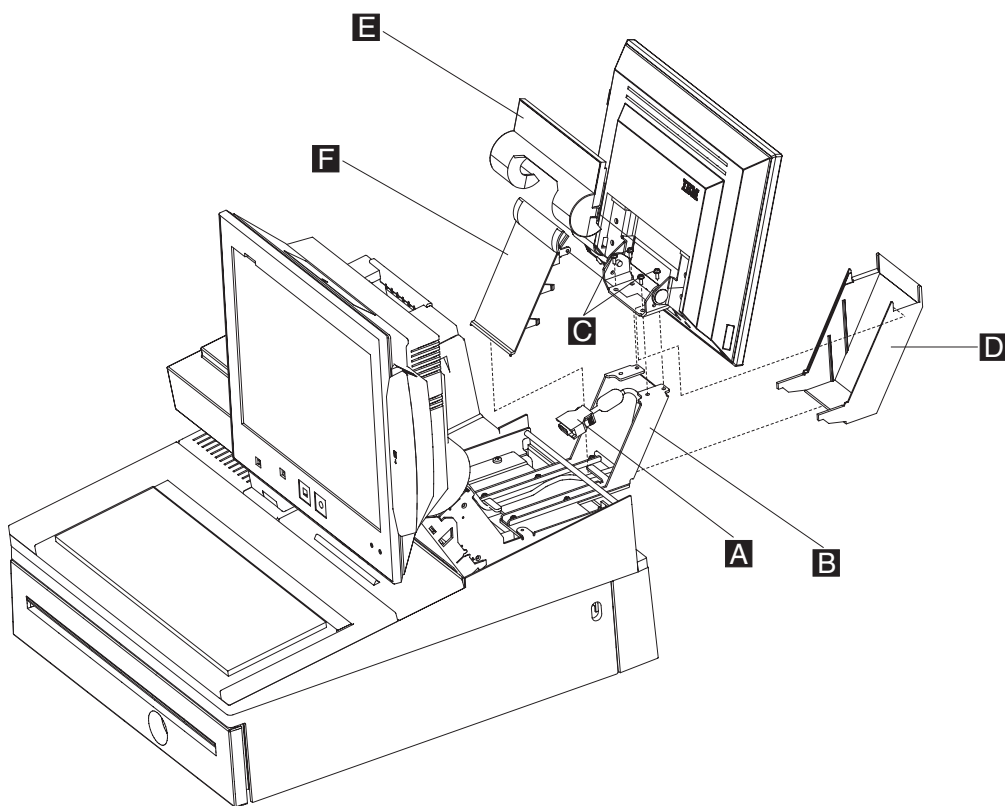

Figure 109. Removing the 4820 SurePoint Solution cable and covers
3. Remove 4820 filler panels **D** , **E** , and **F** as show in Figure 109.
4. Disconnect the 4820 display cable **A** from the external video connector on the 4820 and from the rear connector panel of the SurePOS 500/600, as show in Figure 109.